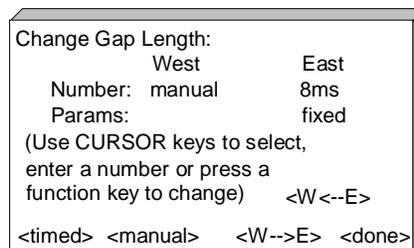

Figure 4.8 Change Gap Length Screen
1. From the **CHANGE MAIN PARAMETERS** screen, highlight a gap length and press a numeric key or press **ENTER** to display the **CHANGE GAP LENGTH** screen (see Figure 4.8).